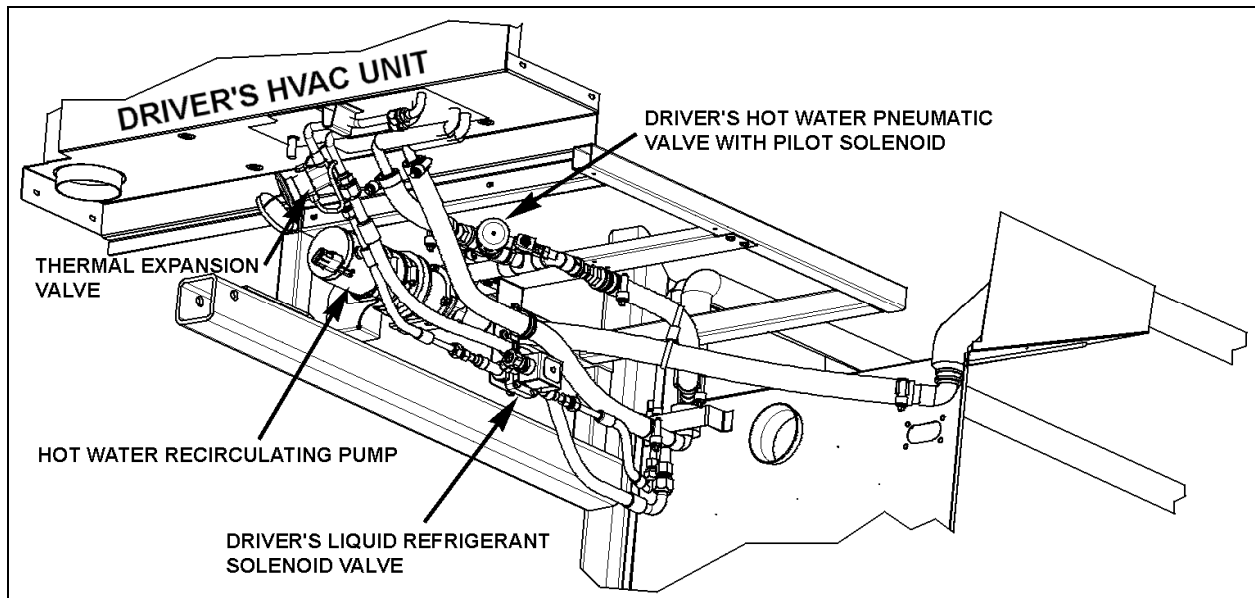

FIGURE 54: CEILING OF THE SPARE WHEEL COMPARTMENT
- b) Locate the normally open hot water pneumatic valve on the ceiling of the spare wheel compartment (Fig. 54), move the pilot-solenoid valve red tab to close the valve.
Refer to figure 54 for hot water pneumatic valve location and to paragraph 11.1.5 for more information.
Refer to figure 54 for pump location and to paragraph 11.1.7 for more information.